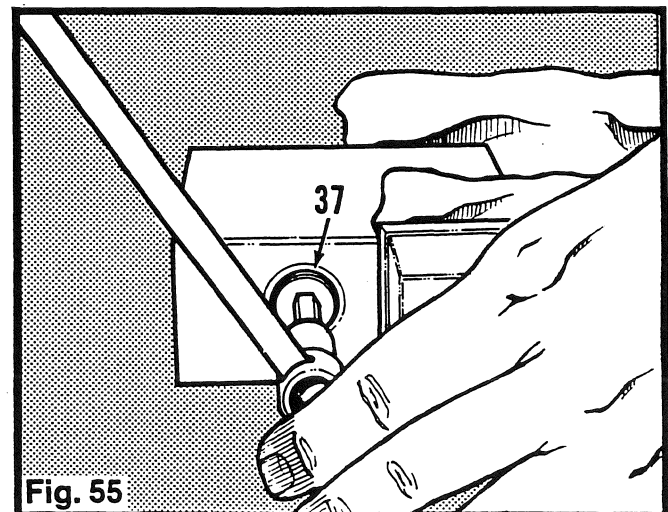

Fig. 55
3. Use an Allen wrench to remove the adjusting screws (37). (Fig. 55)